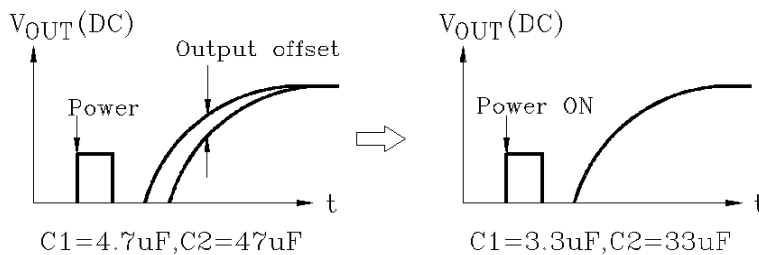

Fig.4
Therefore, the offset voltage produced at the input stage is suppressed to prevent the pop noise at $V_{CC} \rightarrow ON$. The capacity values of the input and NF condenser (C1 and C2) shall be set according to the gain to be used(Fig 4).
Through setting ① pin (mute terminal) at about 1V or less, muting becomes possible. The interval circuit of IC is shown in fig.4.